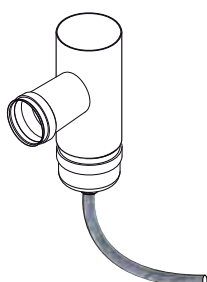

fig. 5.5.3
**It is necessary to provide a pipe at the bottom of the first T at the smoke outlet, to allow the evacuation of the condensation water which can form in the duct (fig. 5.5.3).**